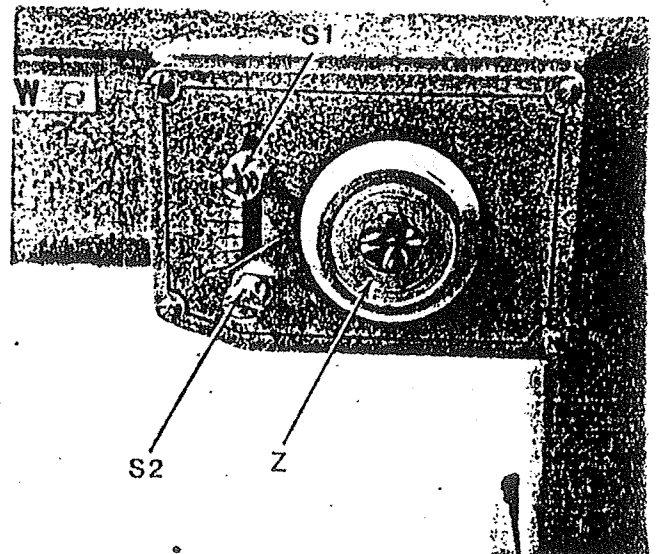

Fig. 12
Ascertain that stops (S1) and (S2) (Fig. 12) are set at both extreme ends of their slot. If not, use screwdriver to loosen them about one turn and then tighten them in their extreme positions. Turning the zigzag regulating knob (Z) clockwise as far as it will go, will cause the machine to sew with a straight stitch. Turning this knob counter-clockwise will produce a zigzag stitch. Same will become wider the more this knob is turned in counter-clockwise direction. The widest zigzag
4. ADJUSTMENT OF UPPER FEED MECHANISM. (Ref. Fig. 12)
(Fig. 12)